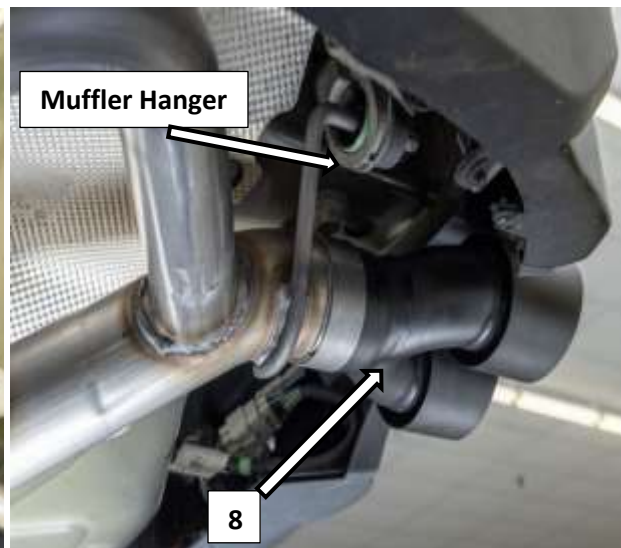

Figure 10
10. Install the left muffler hanger assembly on to the tailpipe hanger rod with the rubber facing the rear of the car and the metal hook on the muffler hanger body facing the frame rail. **Fig.10**
11. Rotate the tailpipe into position and hook the muffler hanger on to the frame rail and install the 8mm bolt. **Fig.10**